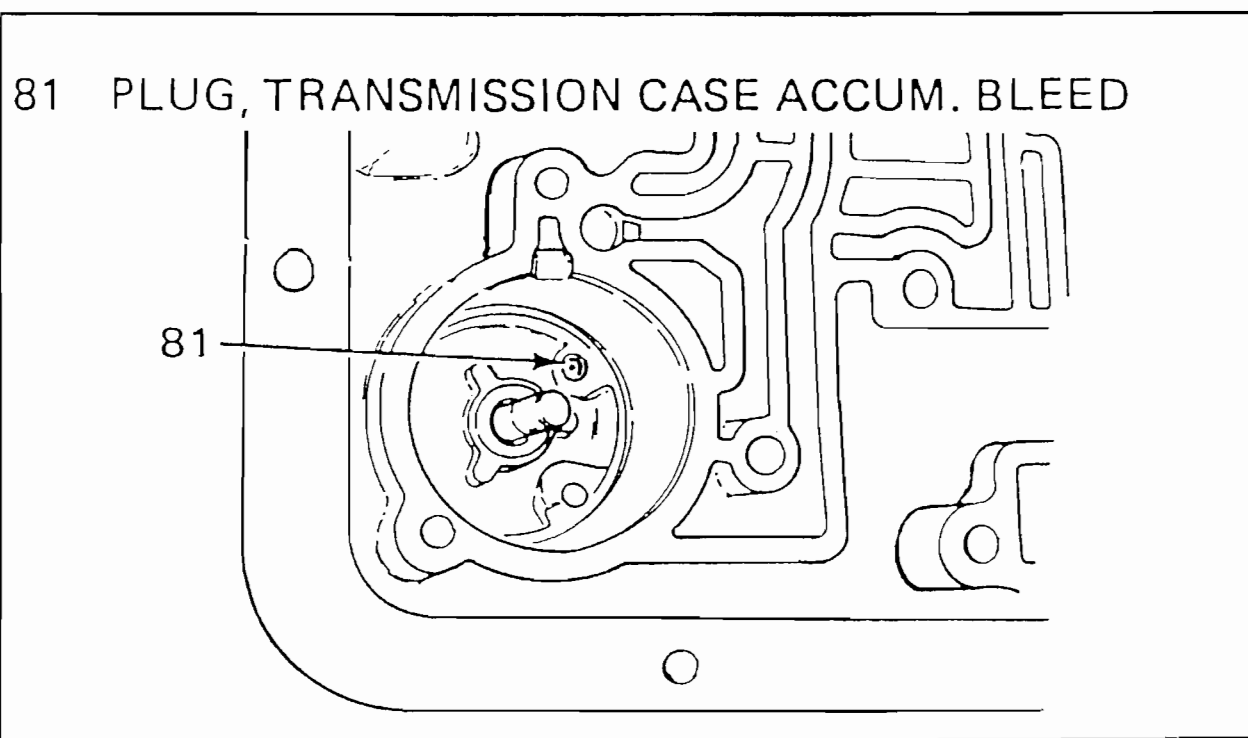

Figure 1
- CAUSE: The cause could be the bleed orifice cup plug missing from the case in the bottom of the 3-4 accumulator bore (see Figure 1).